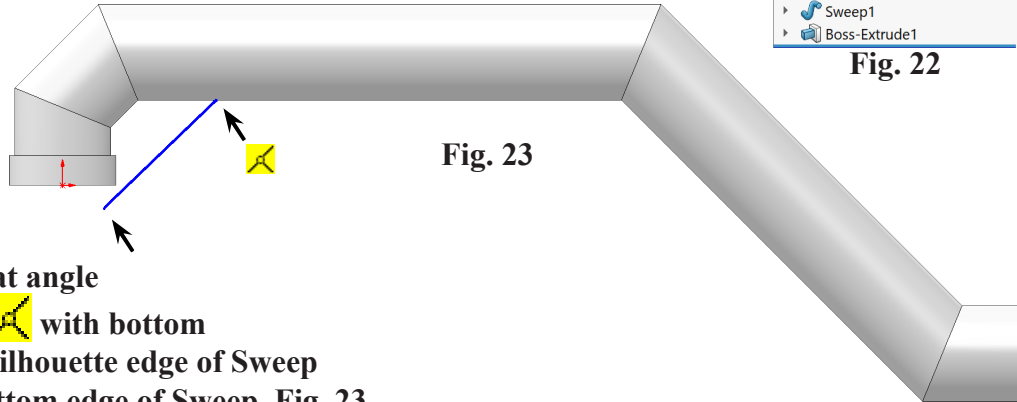
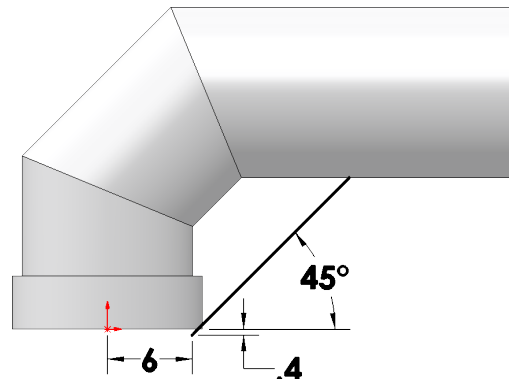

Fig. 23
Fig. 24
Step 4. Sketch line at angle **coincident**  with **bottom horizontal silhouette edge of Sweep to below bottom edge of Sweep**, **Fig. 23**.
Step 5. Click **Smart Dimension**  (S) on the Sketch toolbar.
Step 6. Add dimensions, **Fig. 24**.